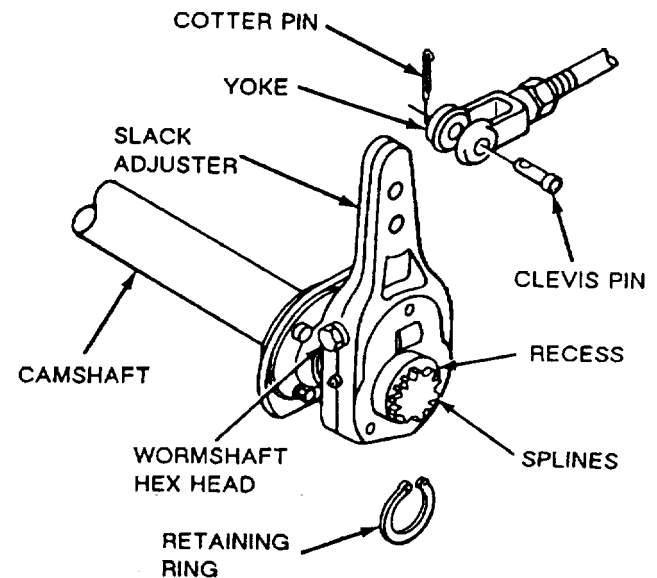

Figure 4-50. Removing and Installing Slack Adjuster
- (1) Remove cotter pin and clevis pin securing yoke to slack adjuster, fig. 4-50.
- (2) Remove retaining ring from end of car shaft.
- (3) Using a brass hammer, tap on slack adjuster lightly until it comes off the camshaft.